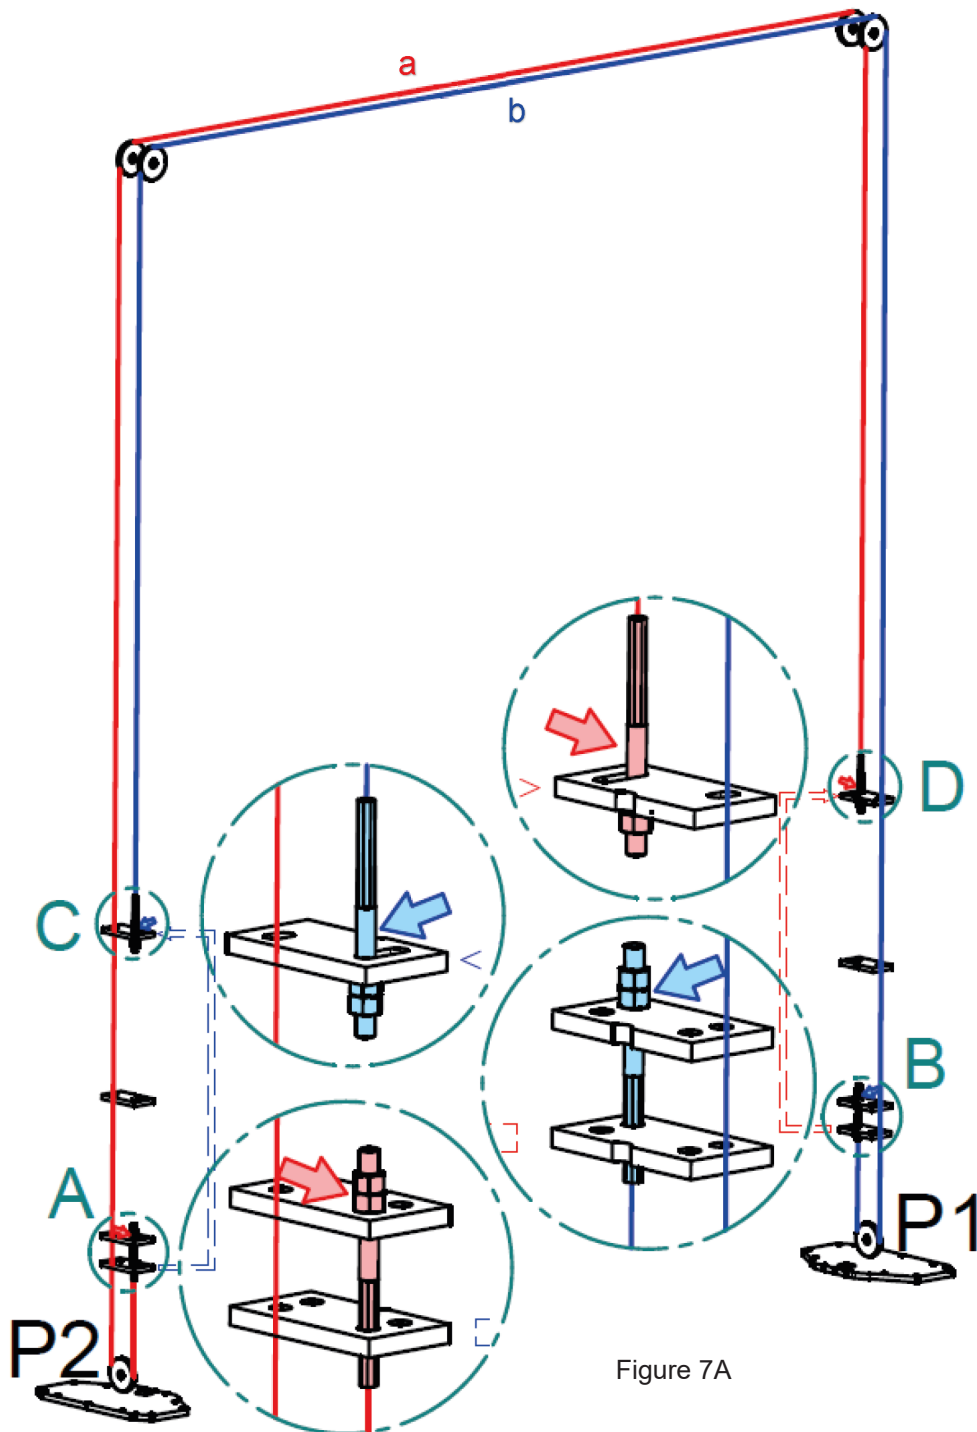

Figure 7A
- connect the synchronism cable "a" to the carriage of column P1 on the front connection (figure 7a) with the locking nuts on the bottom and the cable directed upwards;